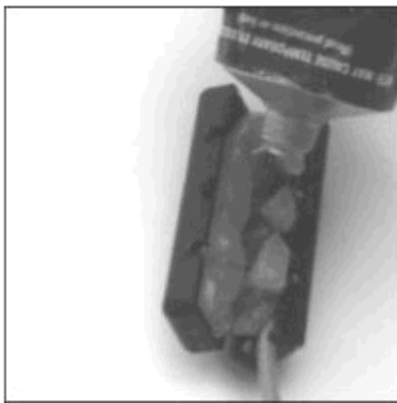

Figure 2.17 Filling the Splice Enclosure
10. Coat the inside of the splice enclosure with Dow Corning #4[®] or GE Novaguard G624[®] moisture protection compound (Figure 2.17).